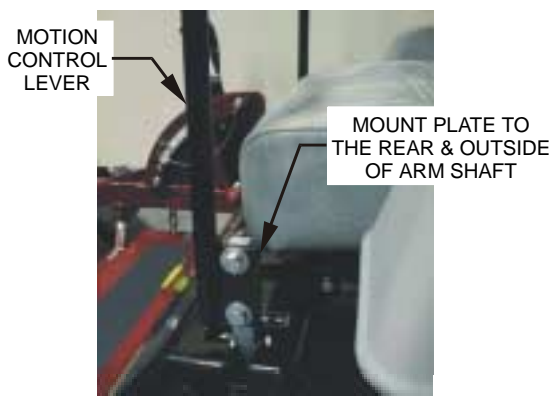

FIGURE 1
suspension seat from front of crate and discard the hardware. Position the seat on the studs in the adjustable tracks; be sure the left and right tracks are aligned (See Figure 1). Loosen the vinyl curtain frame at the rear by pushing down and ahead out of the hole. Secure the seat with four 5/16 whizlock nuts. Reattach the vinyl curtain frame. Connect the terminal at the end of the wire tied to the seat frame to the switch in the bottom of the seat.
3.7.1 Loosen and remove the two (2) 3/8" x 1" bolts and spring disc washers which attach the motion control levers to the control arm shafts for shipping and the two (2) 3/8" x 1" bolts and spring disc washers which are screwed into the control arm shafts.
- a) Install the left motion control lever onto the control arm shaft (See Figure 1) on the left side of the console. Place the lever (with the mounting plate towards the rear) on the **outside** of the control arm shaft and secure with the bolts and washers. Position the lever so the bolts are in the center of the slots on the lever mounting plate and tighten until snug. Repeat on opposite side of unit.